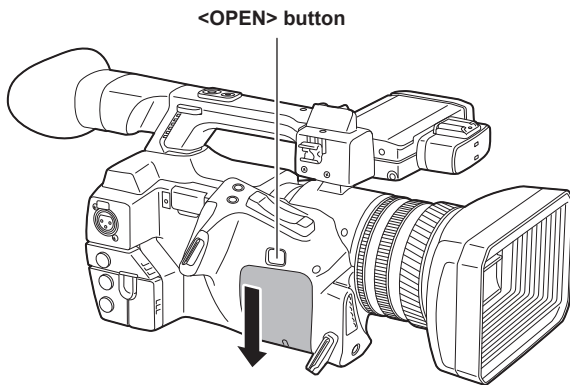

Fig. 1
**1** Press the <OPEN> button and remove the cover by sliding it in the direction of the arrow. (Fig. 1)